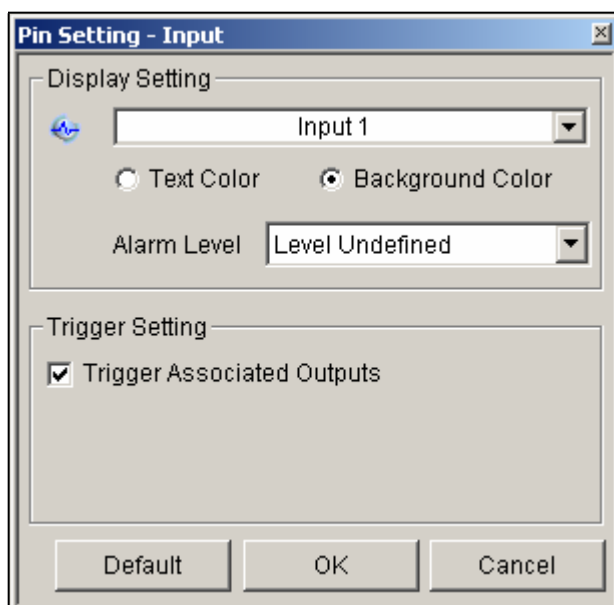

Figure 6-21
- ⑩ **Show Host Name:** Displays the host name of each I/O device on the Advanced I/O List.
- ⑩ **Use User-defined Text:** Allows you to modify the text of Alarm Level (Figure 6-21).